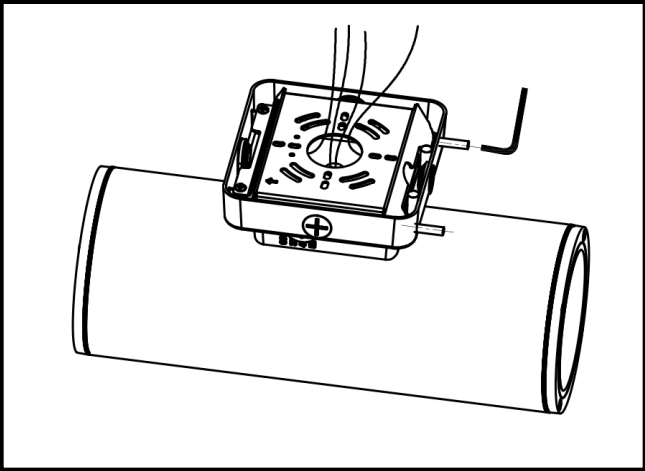

Figure 1.
1. Loosen but do not completely remove the (2) wedge plate screws on the fixture (Figure 1.)